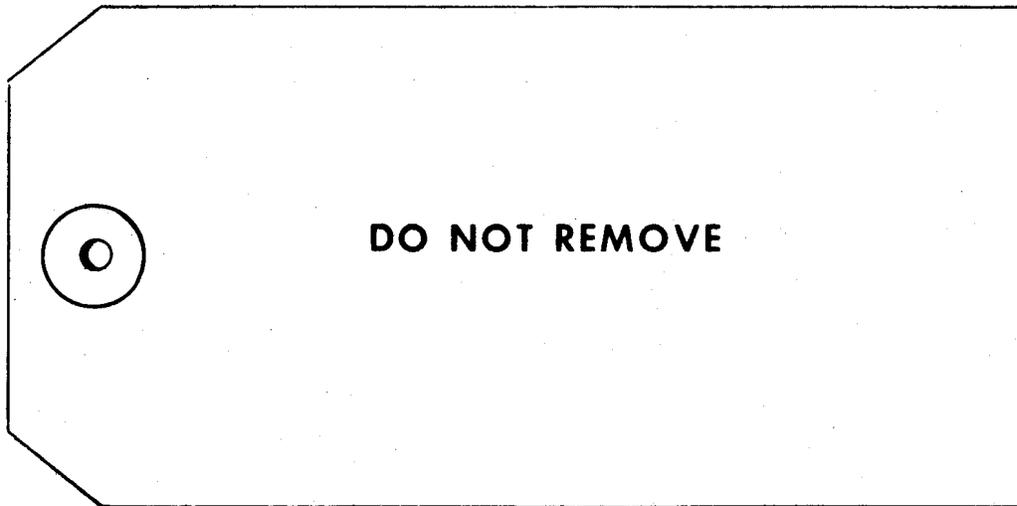

Fig. 13—Example of Circuit Pack Identification Tag
**7.21** Faulty circuit packs being sent to the repair center for the first time do not need a trouble identifying tag attached; the standard shipping forms are required. However, if a repaired circuit pack still checks bad under normal operating conditions, a trouble identifying tag should be attached before returning the pack to the repair center. An example of a tag is shown in Fig. 13. The following information should be placed on the tag: